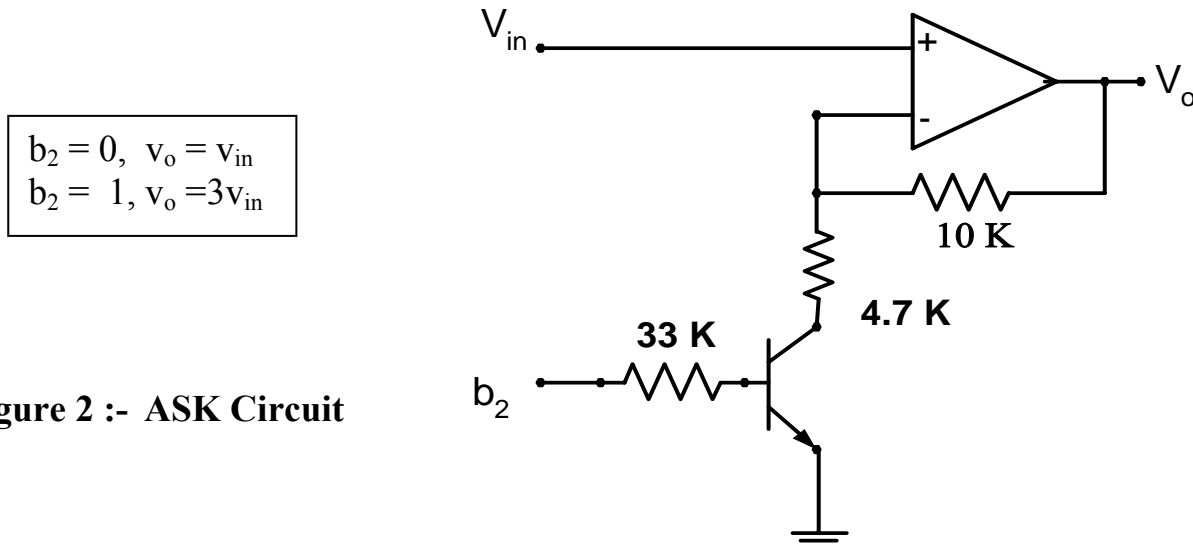

Figure 2 :- ASK Circuit
8. Similarly, construct the ASK circuit (as shown in Figure 2 above) on the bread board, connect biasing power supply and connect the previously adjusted sinusoidal carrier to the **V_{in} input** of the ASK circuit, and a TTL clock to its b₂ input and display b₂ on one channel and the output, V_o of the ASK, on another channel of the CRO, and note the shifting of the amplitudes at the transition points of the binary TTL clock.